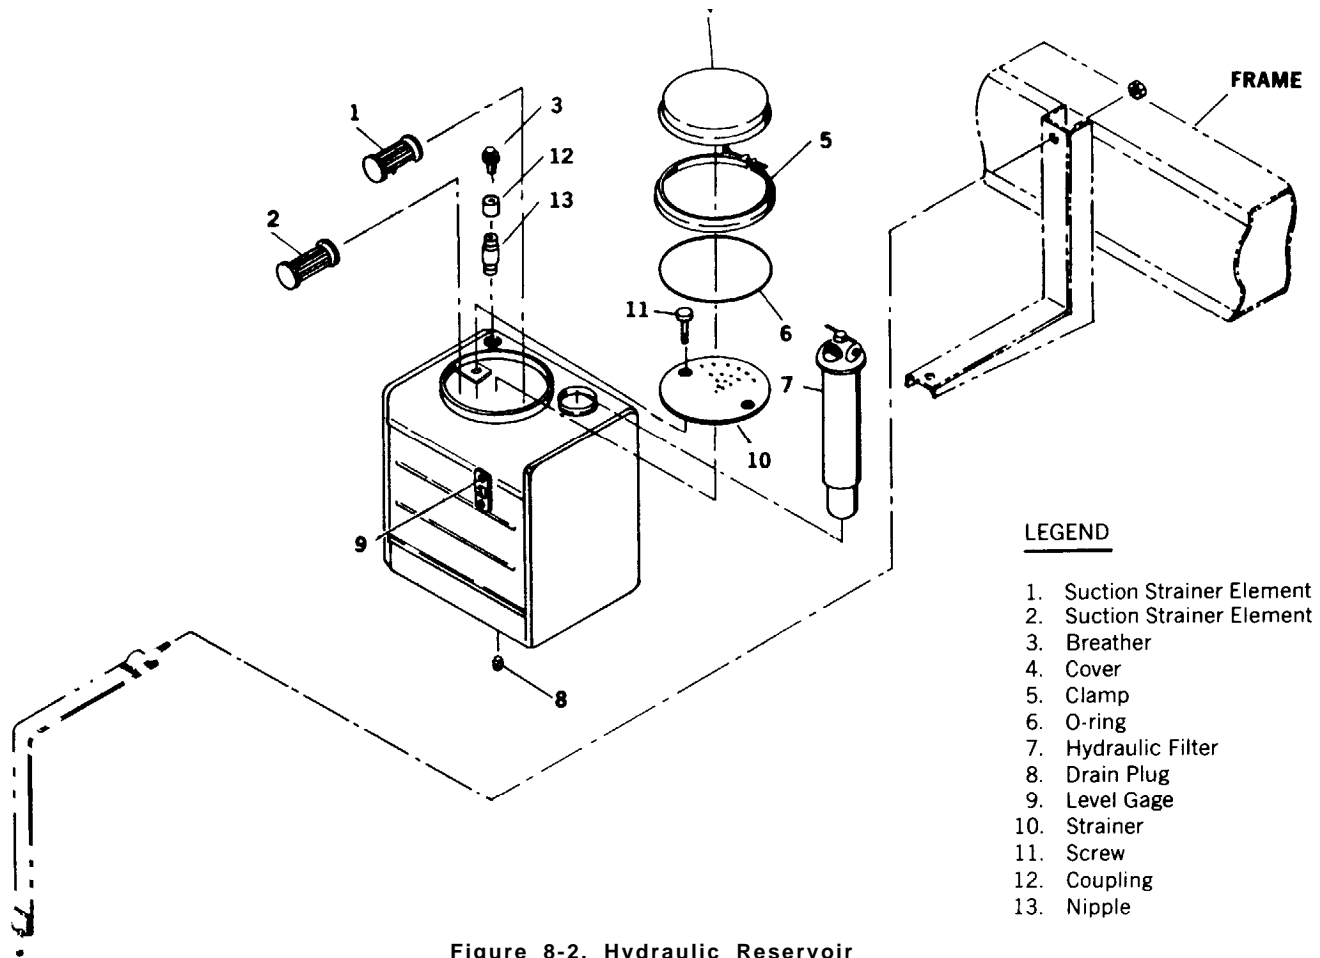
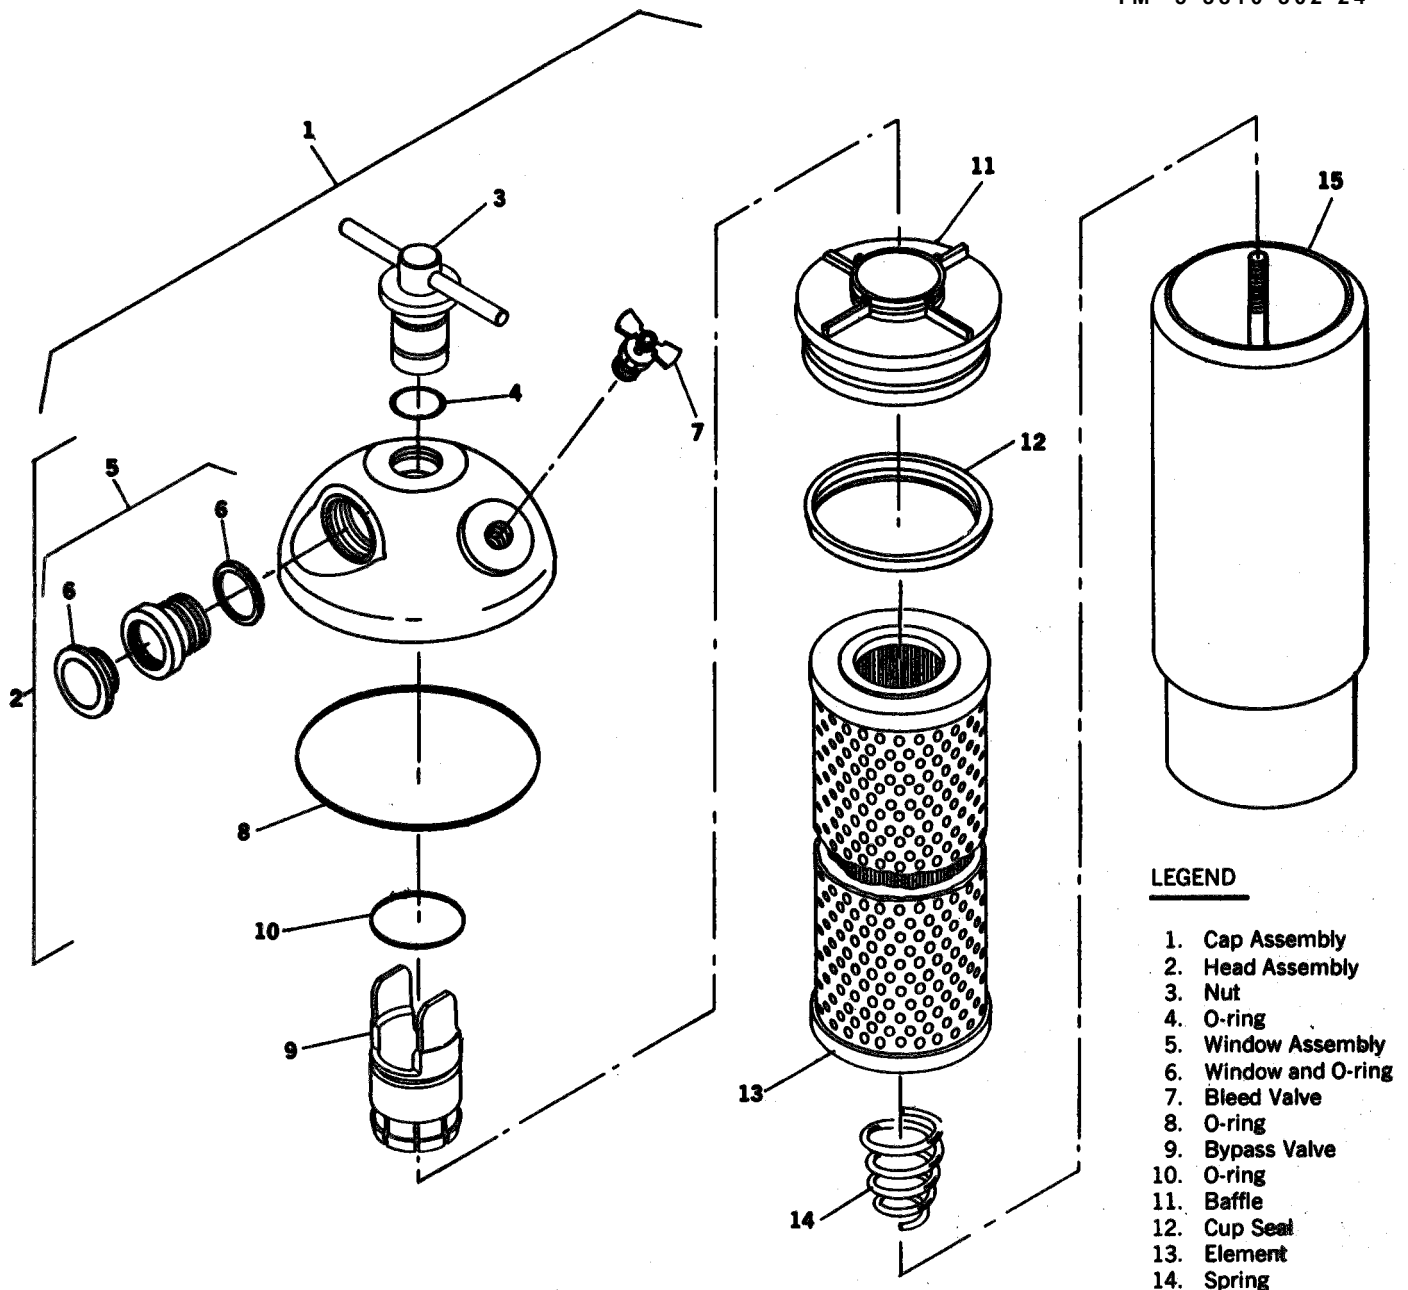

Figure 8-2. Hydraulic Reservoir
Figure 8-3. Hydraulic Filter Assembly
- b. Wipe dirt around cover (4, figure 8-2). Loosen clamp (5) and remove cover (4) and strainer (10).
- d. Wipe dirt off filter housing (7).
- e. Open bleed valve (7, figure 8-3).
- f. Remove nut (3) and head (2).
- g. Remove bypass valve (9) and baffle (11).
- h. Remove element (13).
b. Soak strainers (1 and 2, figure 8-2) in solvent P-D-680 for 30 minutes. Brush with soft bristle (not steel) brush. Rinse strainers in clean solvent and drip dry on rack. Air dry from inside out with low pressure air. Inspect strainers for damage.
- c. Discard element (13, figure 8-3) and all O-rings.
- d. Inspect window assembly (5) for damage.
- e. Inspect cup seal (12) for damage.
a. Install element (13, figure 8-3), baffle (11) with cup seal (12), bypass valve (9), and O-ring (10).
b. Install head (2) with O-ring (8). Make sure that indicator ears on bypass valve (9) appear in window assembly (5).
- c. Install nut (3) and tighten fingertight.
- d. Close bleed valve (7).
- e. Install clean strainer elements (1 and 2, figure 8-2) and strainer (10).
- f. Install hydraulic reservoir cover (4) with O-ring (6). Tighten clamp (5).